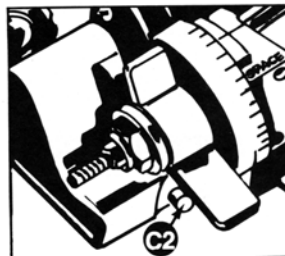

FIGURE 9
3. Push and hold operating switch "C-2" located below spacing cam. Do not move spacing cam, just push switch extension only. See figure 9.